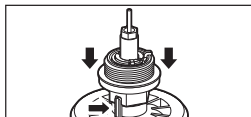

Figure P2
3. Press the 3/4" threaded adapter down towards the actuator to ease the tension on the retainer clip (Figure P2).